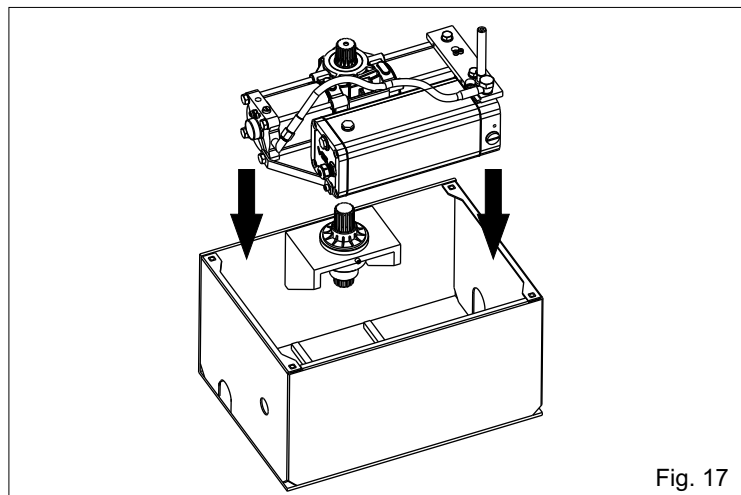
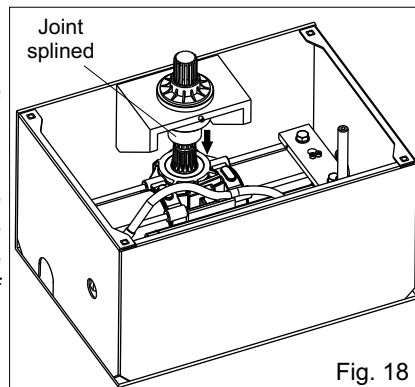

Fig. 17
Fig. 18
4.3. Put the operator inside the carrying box by hand (Fig. 17) and couple the pinion of the operator with the pinion of the box using the jointed splined bush (Fig. 18).